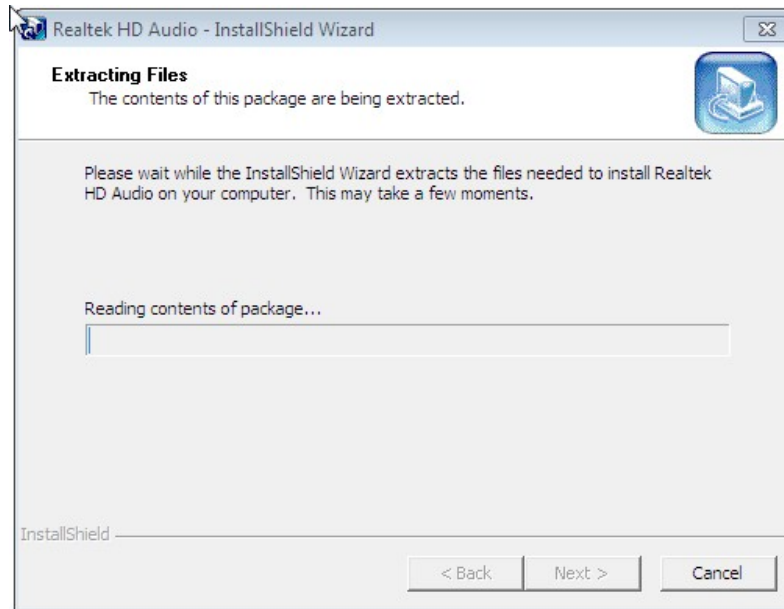

Figure 6-24: Audio Driver Installation File Extraction
Step 3: The installation files are extracted as shown in **Figure 6-24**.